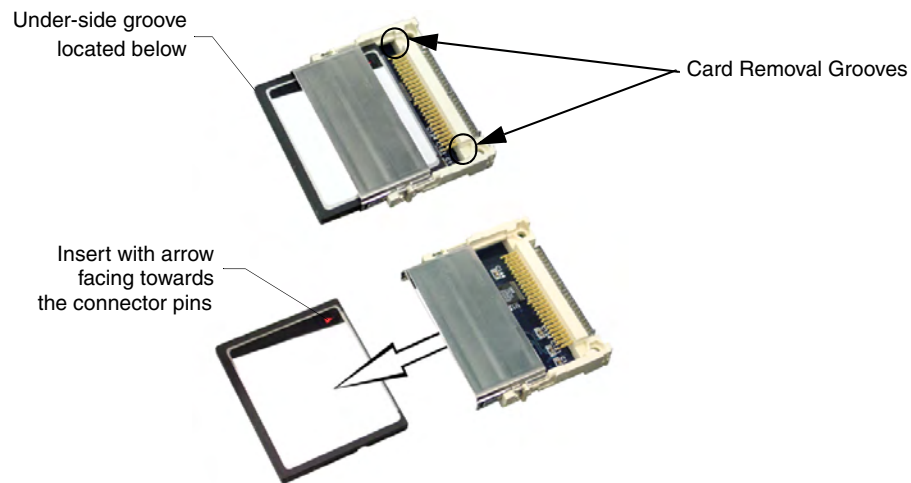

FIG. 22 Removing the Compact Flash card
6. Insert the upgrade card into the connector opening with the arrow facing towards the pins, then push it in firmly until the contact pins are completely inside the flash card and securely attached to the connector (FIG. 22).